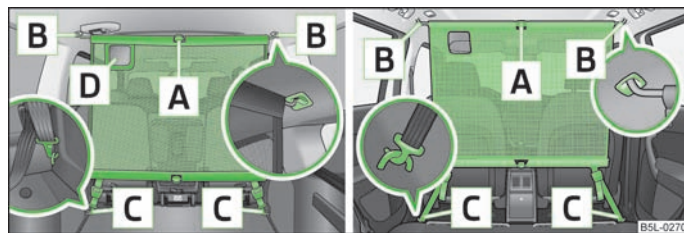

Fig. 59 Using the net partition behind the front/rear seats
- First of all insert the cross rod into the mount **[B]** » Fig. 59 on one side and push it forward. In the same way, insert the cross rod into the mount **[B]** on the other side of the vehicle.
- Undo the belts on both sides and unhook the carabines **[C]** » Fig. 59.
- Press the red button of the joint **[A]** » Fig. 59- the joint becomes loose.
The opening **[D]** » Fig. 59 in the net partition is designed to feed through the three-point seat belt » page 140.